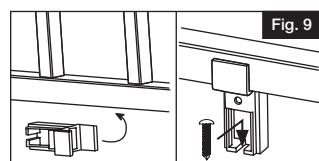

Fig. 9
Pivot support block in place under the rail (Fig. 9).
- a. Measure the length of the rail panel and cut the top rail to match. Press down on the top rail to ensure that it fits snugly onto the panel (Fig. 9).
- b. Align top stair bracket with the rail end only at the top of the stairs (Fig. 9). Using the pre-drilled holes as a guide, drill through the railing using a $\frac{1}{8}$ " drill bit being careful not to drill through the top of top rail. Do this for the top of the stairs only (Fig. 10).